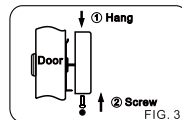

FIG. 3
8. Carefully hook the top digital door viewer over the bracket at the top of the mounting plate, while gently sliding the door viewer unit flush against the door, and secure the digital door viewer case with the Set Screw.(FIG. 3)